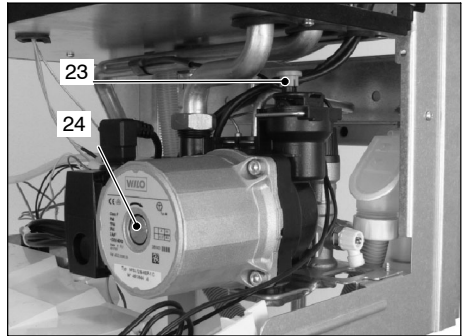

Fig. 7.2
- 3 Lift the cap on the automatic air purger valve 23 (Fig. 7.2) one full turn and leave open permanently.
- 6 Purge the air from the pump by unscrewing the pump plug 24 (Fig. 7.2); release the pump shaft by turning in the direction indicated by the arrow on the information plate.